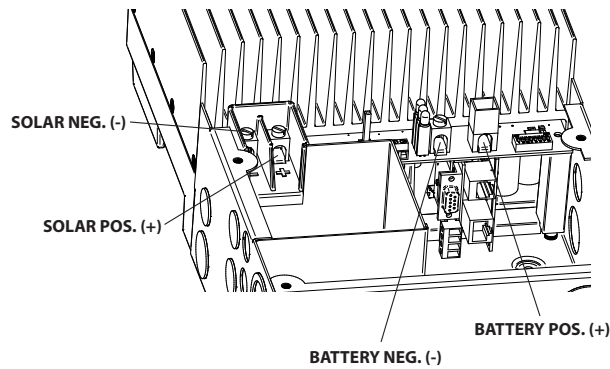

Figure 3-14. Power Terminal Locations
**Connect the four (4) power conductors shown in figure 3-14 as described in the following steps:**
8. Connect the battery (-) wire to the battery (-) terminal on the TriStar MPPT 600V. See Figure 3-14.
9. Torque 5/16 in. power terminal screws to 50 in-lbs (5.65 Nm). Replace cover, and secure with four (4) screws.